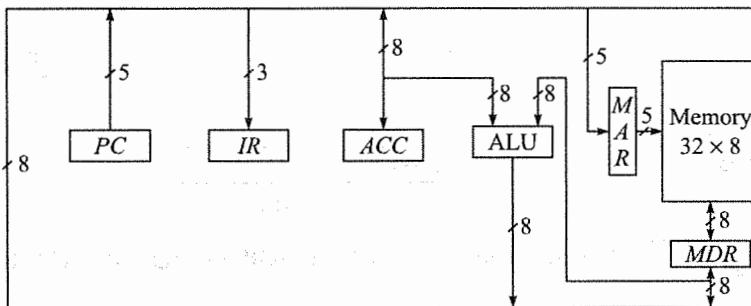

Fig. 16.2 Data path of the simple computer
From this discussion we can draw the *data path* of our simple computer as shown in Fig. 16.2. Here, by data we mean address, opcode as well as operand and they move from/to memory, register, *ALU*, etc. Of course, we need another set of path to send control signal to various hardware to carry out microoperations. This is called *control path* and we'll design it when we define the instruction set for our computer.
Find in Fig. 16.2 the direction of arrow that shows the direction of data flow. Note that, *IR* and *MAR* can only receive data from BUS; *PC* can only send data by BUS; *ACC* and *MDR* can do both;
Let us first see when parallel load control of  $IR$  is to be activated. We find from discussion of previous section, only during  $T_2$  it is loaded. So TSD (Timing counter decoder) output  $T_2$  can be directly connected as parallel load control input of  $IR$ . Every time  $T_2$  is active this loads three MSBs of BUS (data path is such, refer to Fig. 16.2), which at that time holds  $MDR$  value, into  $IR$ . Obviously, at that time BUS selector (BS) should place content of  $MDR$  into BUS. This we'll discuss while designing control for BS.